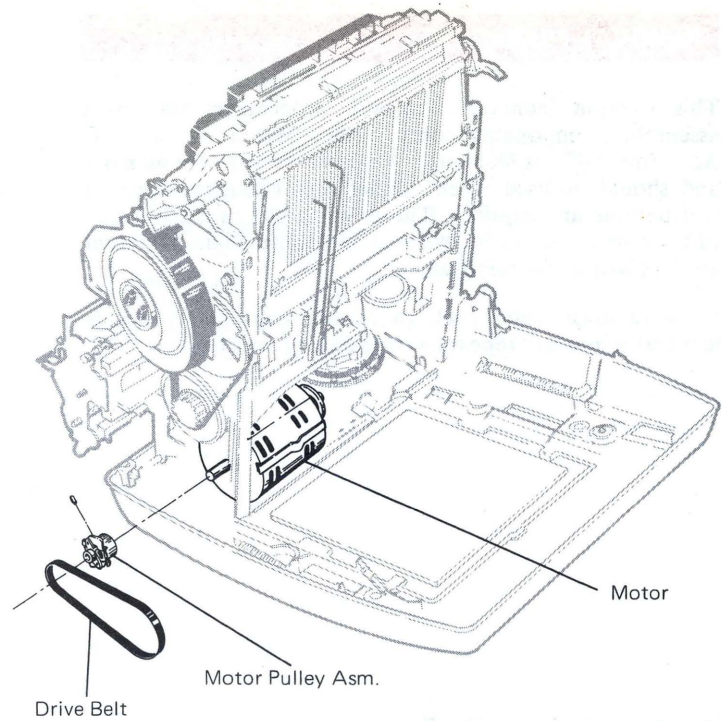

Figure 2 – Motor Removal
3. Remove motor pulley and drive belt (Figure 2).